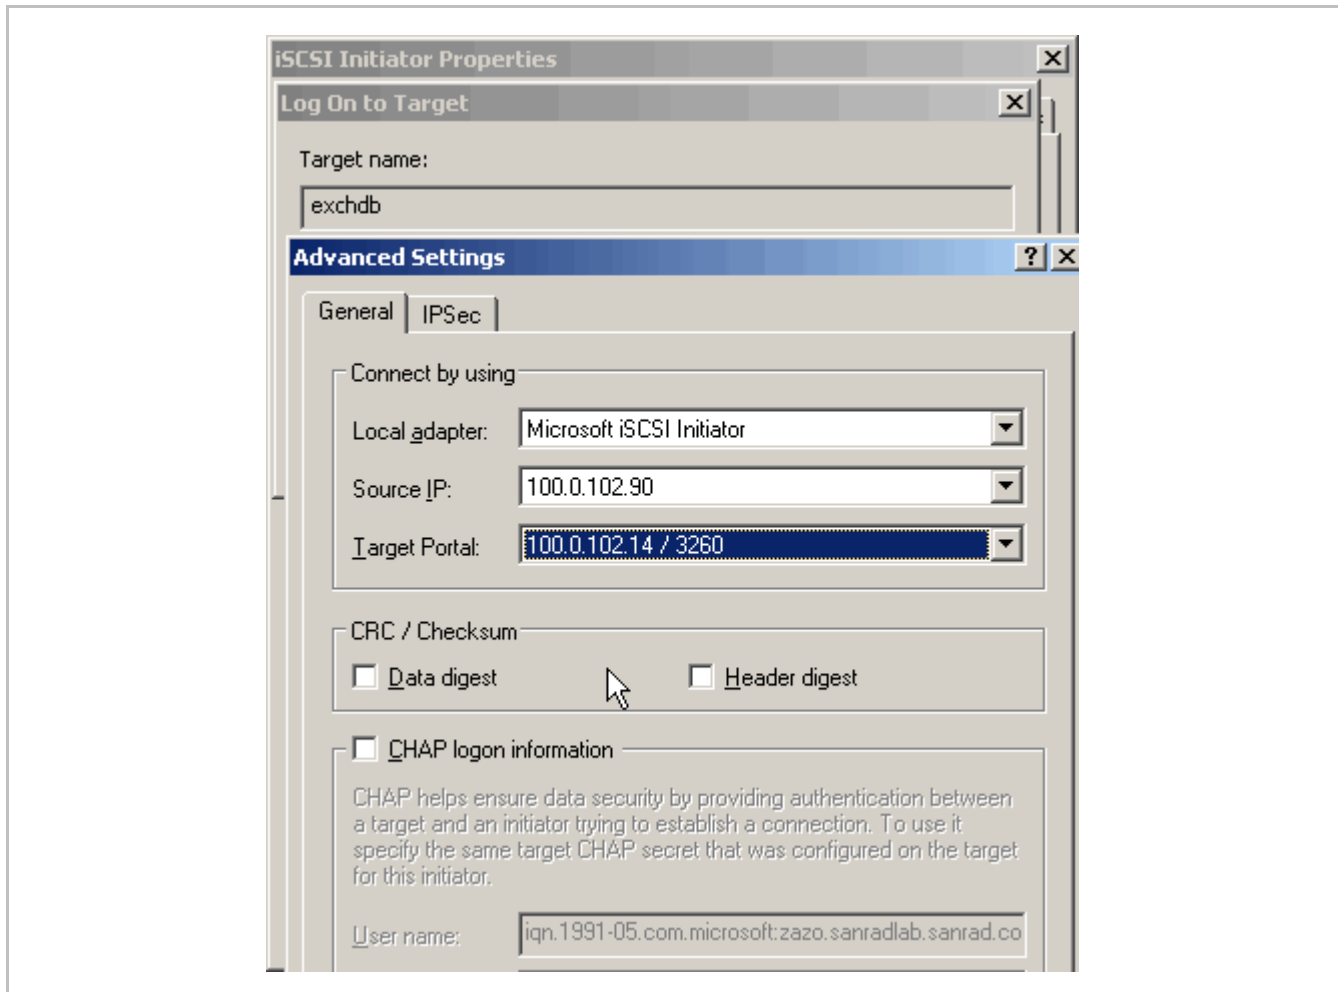

Figure 7. Configure Multi Sessions - Advance settings Window
In the Advanced setting window (Figure 7):
11. Click OK (Figure 7).